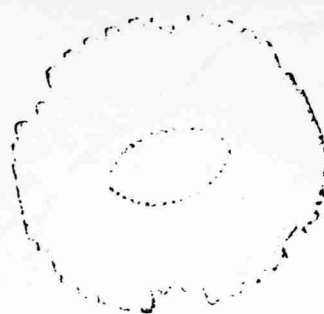

Fig. 25
- c) Place one ball (210) with some grease on the springs (211) in the bore of each pawl (Fig. 25).